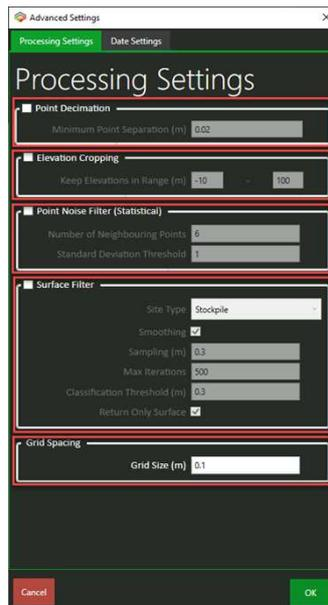

Figure 87. Advanced Processing Settings.
The *Processing Settings* tab (Figure 87) allows the user to define functions, and their settings, to overcome issues with the point cloud. Processing functions are:
1. Select -> **Advanced Settings** icon, to open the *Advanced Settings* dialog (Figure 87).
1. *Select* -> **Advanced Settings** icon, to open the *Advanced Settings* dialog (Figure 87).
1. Select -> **Advanced Settings** icon, to open the *Processing Settings* dialog (Figure 87).